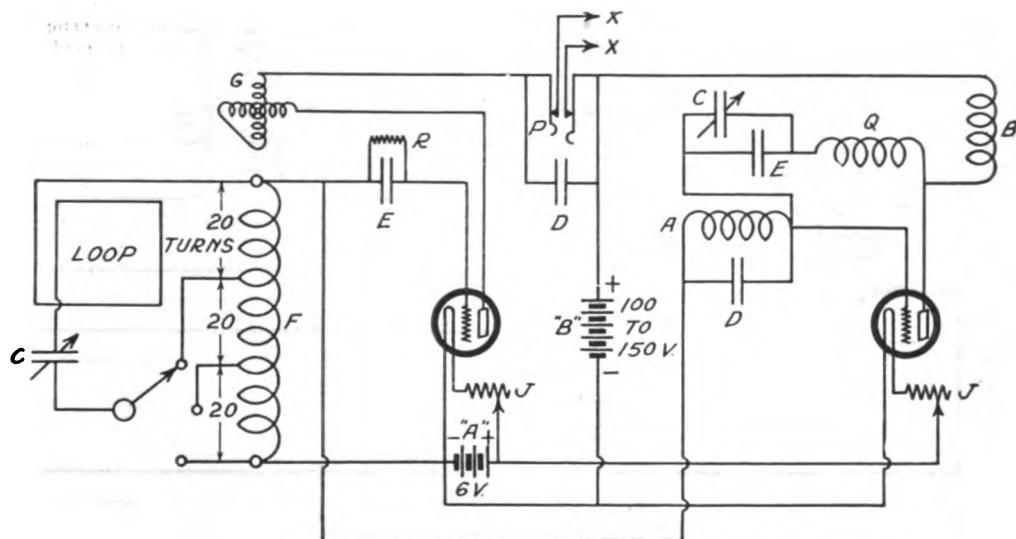

FIGURE 1
"C," which is in series with the loop. See Figure 1, in which the hook-up is given and the method of tapping the "F" coil is clearly shown.
*Fourth.* The circuit shown in Figure 1 may be used with the telephones by tun-
ing out the signals a little so that they will not hurt the ears, or it may be used with a loudspeaker just as it is. The signals with the two tubes should be loud enough to fill a good-sized room using a loop. If the signals are wanted strong enough to fill a large hall, however, a one or two-stage audio frequency amplifier should be added to the set. A one-stage amplifier will produce signals that will be audible over a house, upstairs and downstairs; a two-stage amplifier will make them audible for a quarter of a mile or more, according to the tubes used, the type of loudspeaker employed, and the tuning ability of the operator. The input terminals of the amplifier should be connected to the two leads of the set marked "xx" in Figure 1.